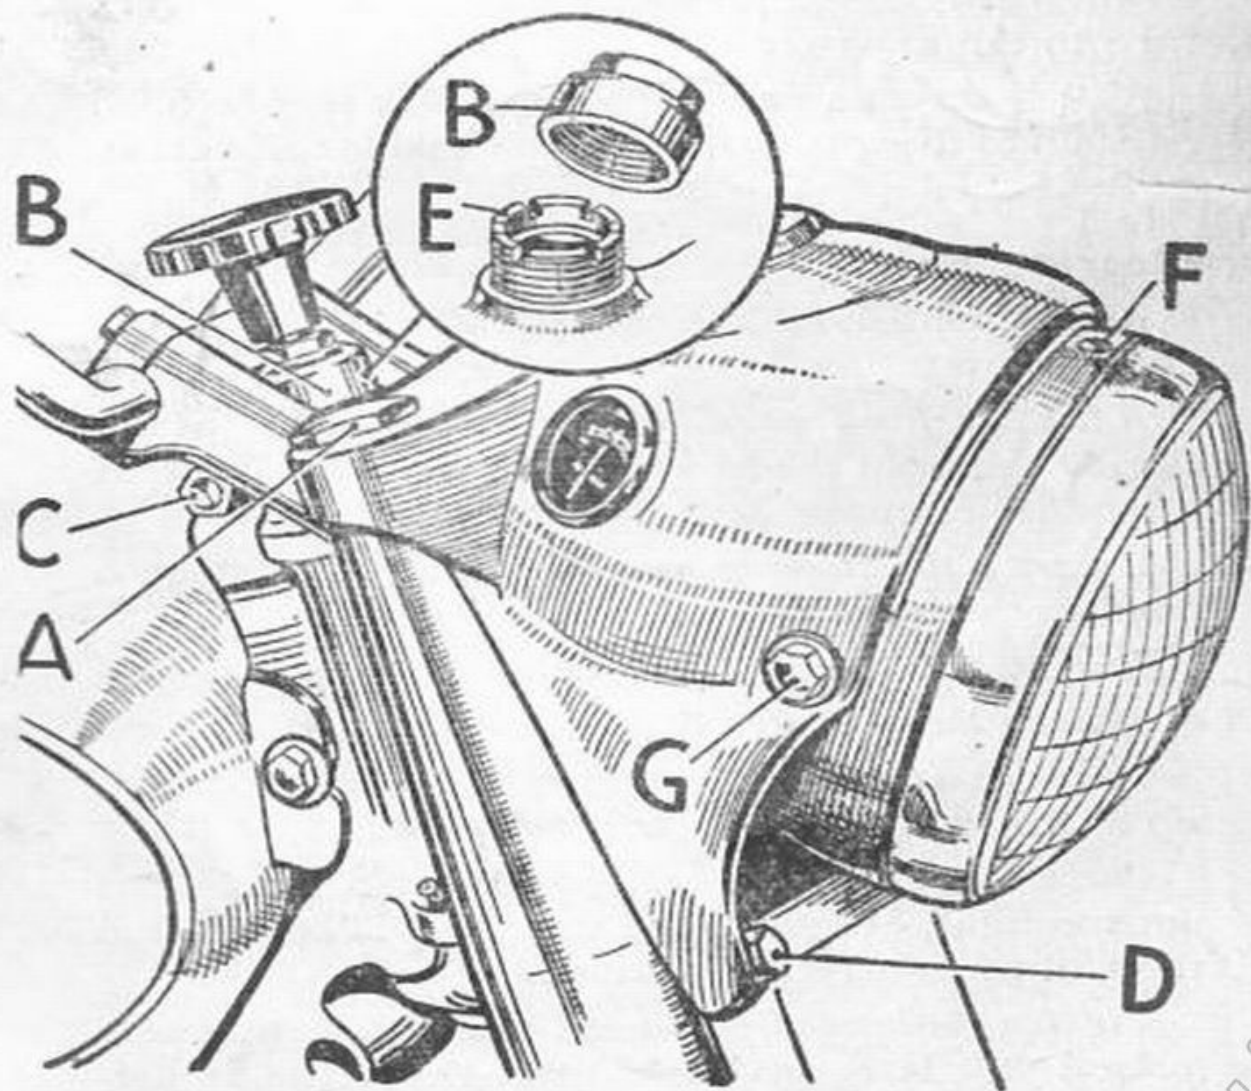

Fig. 23. Front Fork and Steering Head.
*Remove the hexagon headed cap A (Fig. 23), at the top of each fork leg. A special spanner is provided in the kit for this purpose.*
*Add 8 fl. oz. (225 c.c.) of oil to each leg, for A10 G.F. Plunger model, add 4 fl. oz. (100 c.c.) (see lubrication chart), the filling orifice being at A (Fig. 23)*
*Remove the steering head locknut B (Fig. 23).*